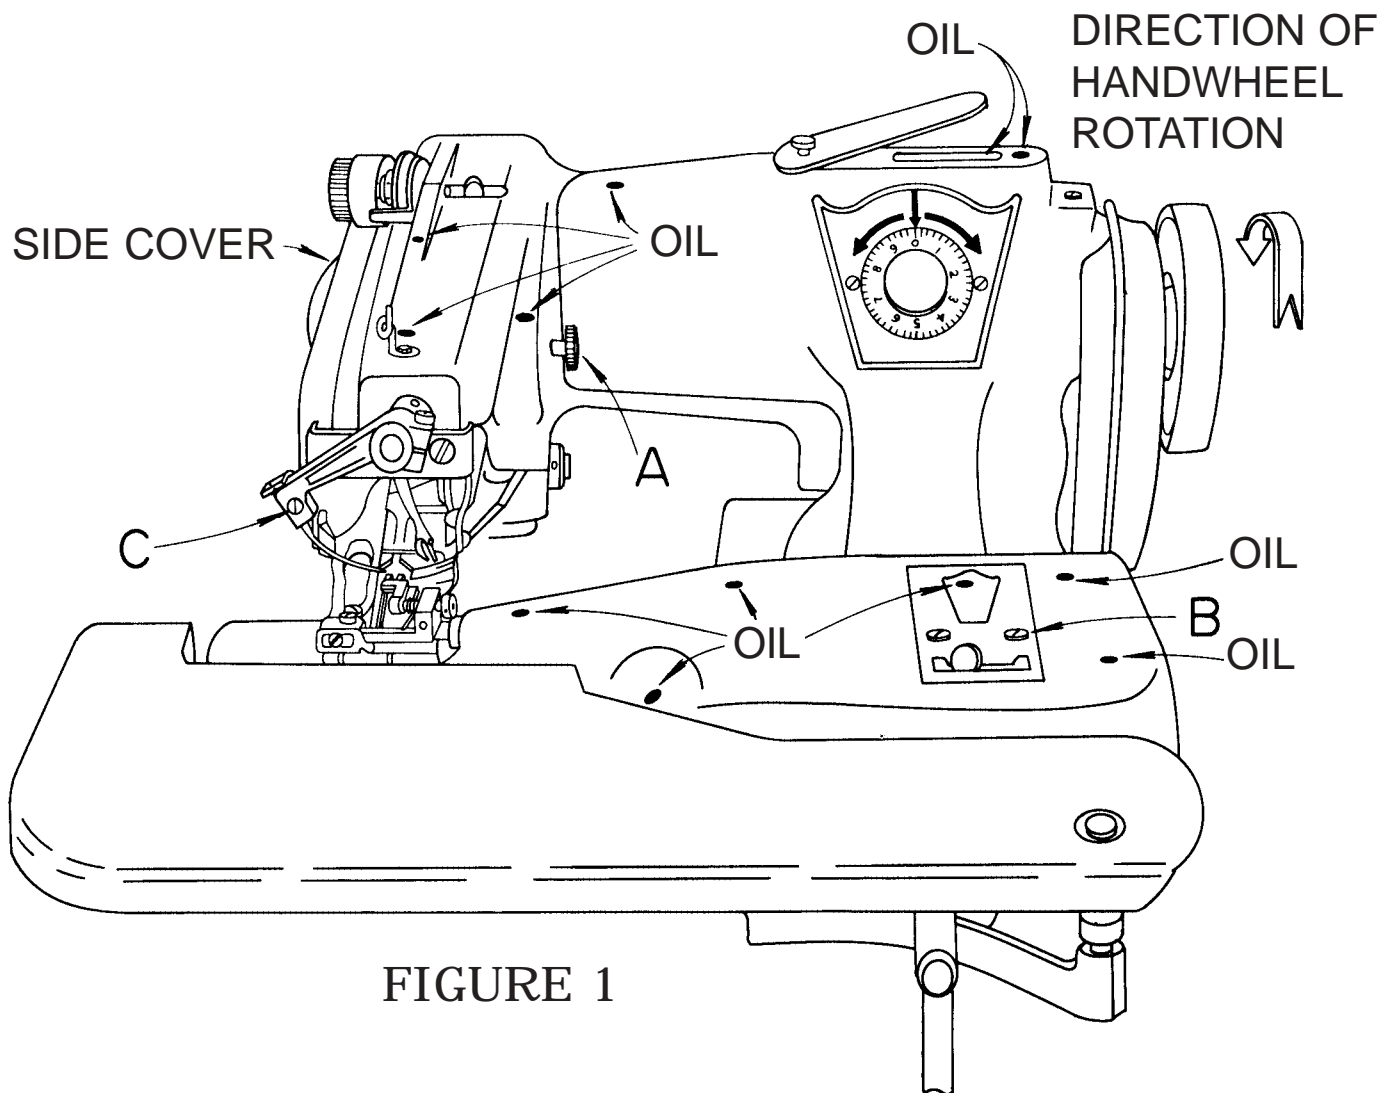
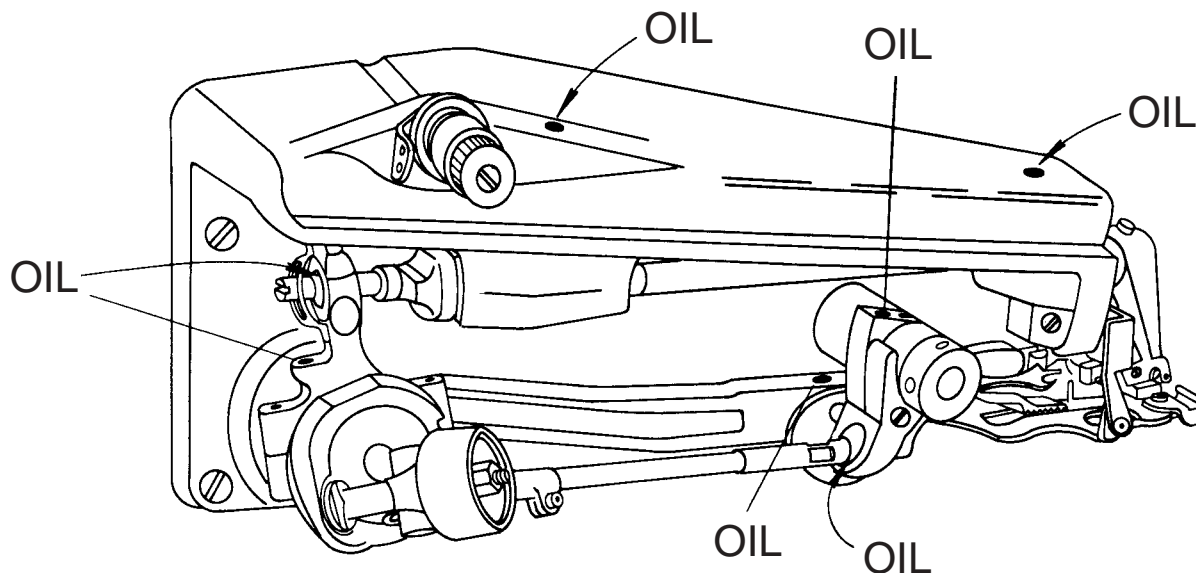

FIGURE 1
FIGURE 2
2. The machine should be mounted so as to insure that the direction of rotation of the handwheel is away from the operator. In other words, the handwheel rotates in a clock-wise direction when looking at the face of the wheel pulley, as shown by the arrow in **Figure 1**.
2. Place a few drops of oil at all the points shown on the oiling chart in **Figure 1**. Remove the side cover shown on **Figure 1** by loosening the cover attaching bolt "A". Then place a few drops of oil at all the points shown on the oiling chart in **Figure 2**.
3. In production use, the machine should be oiled on a daily basis in accordance with the instructions in item 2 above.
b. The lifter rod itself may be moved from left to right as follows: Loosen the screw attaching the small window plate on top of the feed frame (*see Figure 1, item "B"*) and swing this plate out of the way. By inserting a screw driver into the window, the two screws which lock the lifter rod to the lifter rod bracket may be loosened. Move the rod to the desired location and tighten the two lifter rod bracket screws. Replace the window plate in its proper location and tighten the window plate screws.
2. Remove the side cover by loosening the attaching screw (*item "A" in Figure 1*) and observe the machine from the rear.
b. Loosen the needle clamp screw (*item “C” in Figure 1*), slide the clamp rearward sufficiently to release the old needle, and remove and discard it. Insert the new needle and push it up into the groove of the needle lever as far as it will go. Make sure that the flat on the shank of the needle faces rearward and the needle is properly seated in the groove. Tighten the needle clamp screw and turn the handwheel slowly making sure that the needle passes lightly over the needle guide on the presser foot and clears the looper. Readjust the needle penetration as described in a previous section, prior to resuming operation.
b. Loosen the needle clamp screw (*item “C” in Figure 1*), slide the clamp rearward sufficiently to release the old needle, and remove and discard it. Insert the new needle and push it up into the groove of the needle lever as far as it will go. Make sure that the flat on the shank of the needle faces rearward and the needle is properly seated in the groove. Tighten the needle clamp screw and turn the handwheel slowly making sure that the needle passes lightly over the needle guide on the presser foot and clears the looper. Re-adjust the needle penetration as described in a previous section, prior to resuming operation.